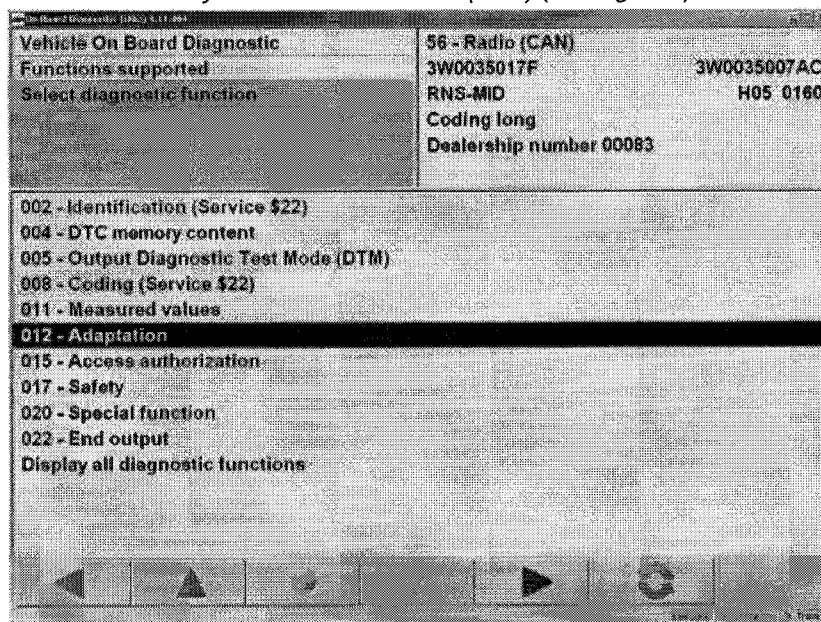

Figure 9
7. In *Select diagnostic function* select **012 – Adaptation** (see Figure 9)